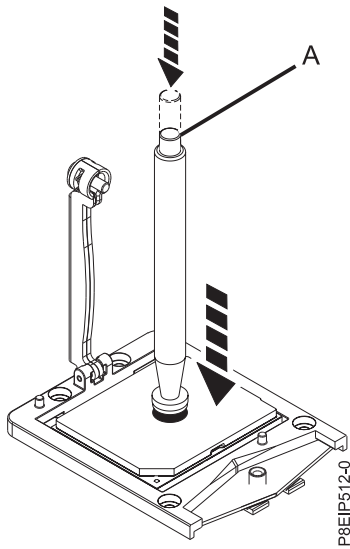

Figure 50. Locking the vacuum pen to the system processor module
8. Lower the vacuum pen tool onto the system processor module. Fully press the top of the pen (A) and hold the pen in the center of the system processor module as shown in Figure 50. Release the top of the pen to fasten the pen onto the system processor module.